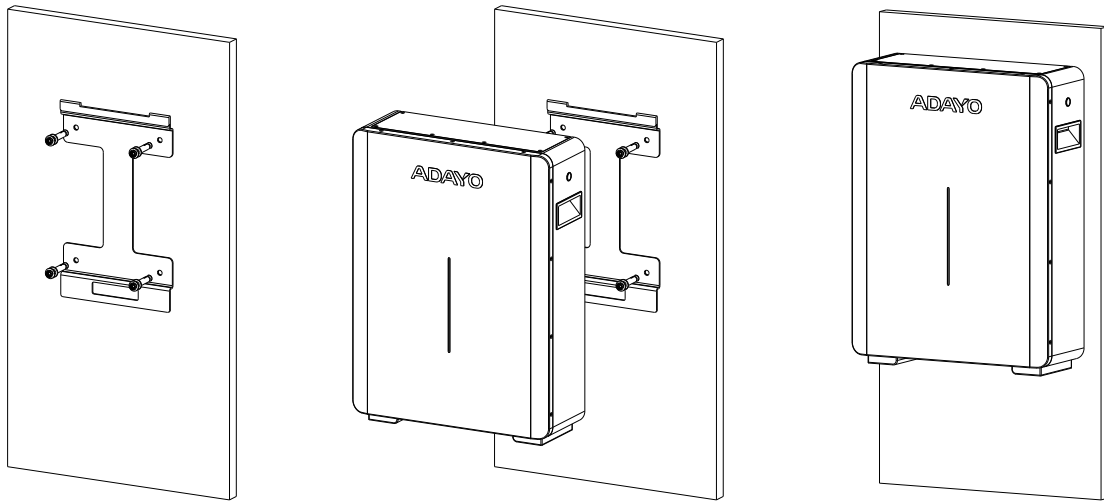

Figure 3-2
- ① Adopt wall mounting type installation, fix the battery on the wall mounting bracket, as shown in Figure 3-2.